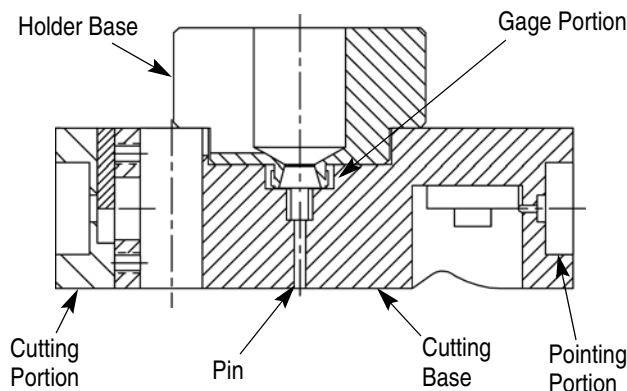

Figure 2
2. Insert the cable into the holder base until the cable makes contact with the pin of the gage. See Figure 2.